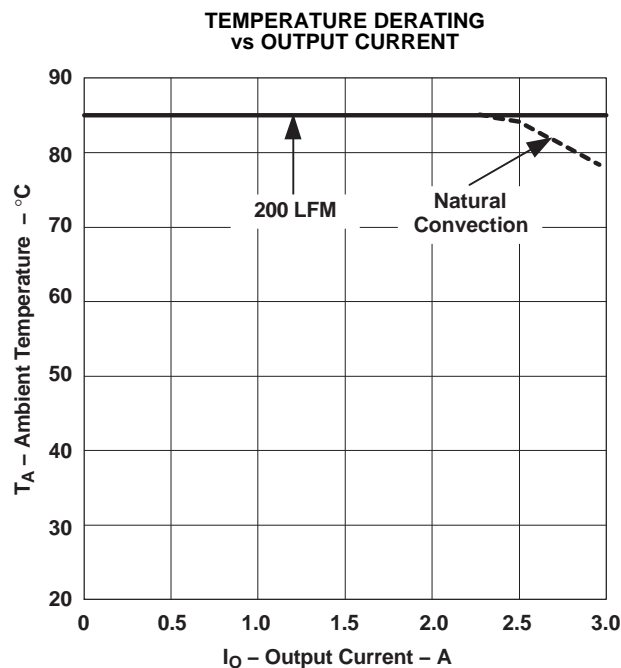

Figure 4.
- (2) The temperature derating curves represent operating conditions at which internal components are at or below manufacturer's maximum rated operating temperature. Derating limits apply to modules soldered directly to a 100-mm \times 100-mm, double-sided PCB with 2 oz. copper. For surface mount packages, multiple vias (plated through holes) are required to add thermal paths around the power pins. Please refer to the mechanical specification for more information. Applies to Figure 4.